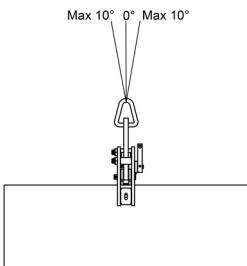
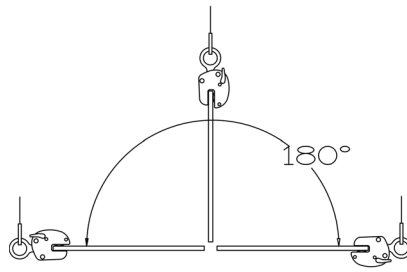

Figure 1
Figure 2
4. The VL series clamps may be used to lift material from a vertical position (Fig. 1) or from horizontal to vertical to horizontal through a 180° arc (Fig. 2).